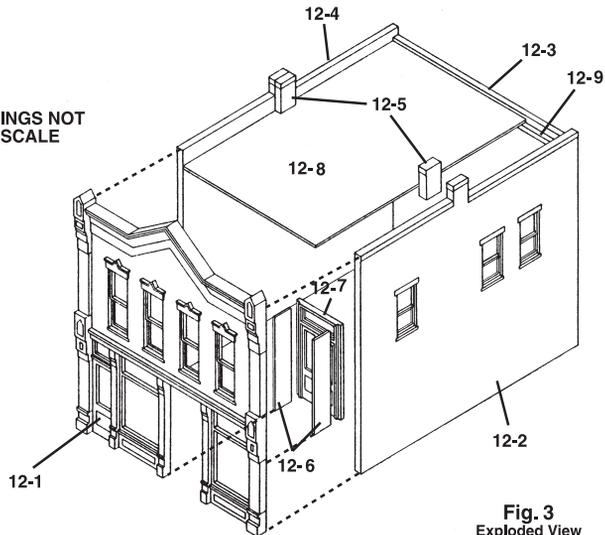

Fig. 3
1. Using Side Panel Material (white styrene strip), cut two Entry Door Side Panels (12-6) the same height as Entry Door (12-7) (**Fig. 3**).
3. Glue Front Door Assembly to back of Entry Wall (12-1) (**Fig. 3**).
1. Install Roof (12-8) through bottom of building and glue to bottom of Chimney Backs (Fig. 3).
3. Glue two Roof Supports to the bottom of Roof and along Front Wall and two to the bottom of Roof and along Rear Wall (Fig. 3).
Square Wall edges by sanding draft angles. Edges to be sanded are marked "A" (Fig. 3).
NOTE: Turret Window Panels are assembled as a unit and attached to the building at a later step. For assembly purposes, the backside of a Panel is marked "0" and another is marked "00". The Panel marked "0" will attach to Wall (13-2) and Panel marked "00" will attach to Wall (13-1) (Fig. 3). Turret Window Panels must be assembled in the proper order.
1. Glue Chimney Backs (13-13) to molded-in chimney fronts (Fig. 3).
1. Align Wall (13-4) with alignment pins on Wall (13-3) (Fig. 3). Check seams for alignment and fit. Although Walls are different heights, the bottom of Walls must be as level as possible.